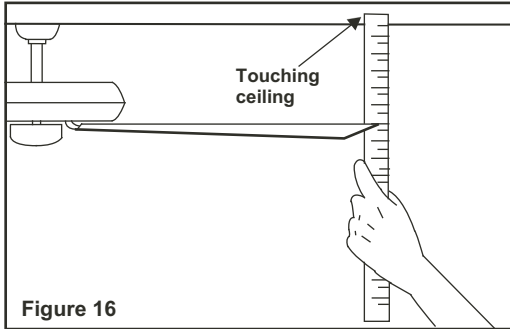

Figure 16
2. Most fan wobbling problems are caused when blade levels are unequal. Check this level by selecting a point on the ceiling above the tip of one of the blades. Measure this distance as shown in Fig. 16. Rotate the fan until the next blade is positioned for measurement. Repeat for each blade. The distance deviation should be equal within 1/8".